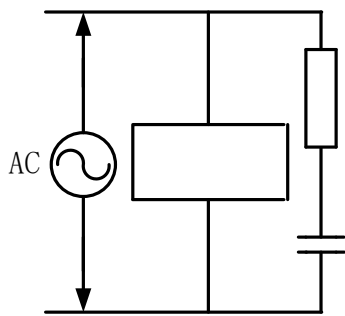
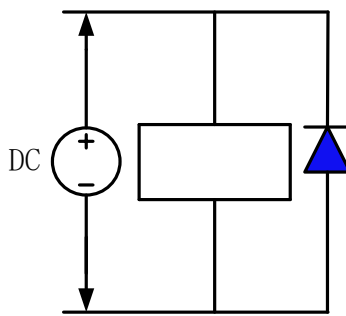

Fig. 1-6
Fig. 1-7
- ① The CNC should be far away from the equipment that causes interference (such as frequency converter, AC contactor, electrostatic generator, high voltage generator and power line segmentation device, etc.);
- ② To supply power to the CNC through the isolation transformer, the machine tool where the CNC is installed must be grounded, and the CNC and the drive unit must be connected to an independent grounding wire from the grounding point;
- ③ Interference suppression: Parallel RC circuit at both ends of the AC coil (as shown in Fig. 1-6), and install the RC circuit as close as possible to the inductive load; parallel freewheeling diodes at both ends of the DC coil in anti-parallel (Fig. 1-7); Connect a surge absorber in parallel to the winding end of the